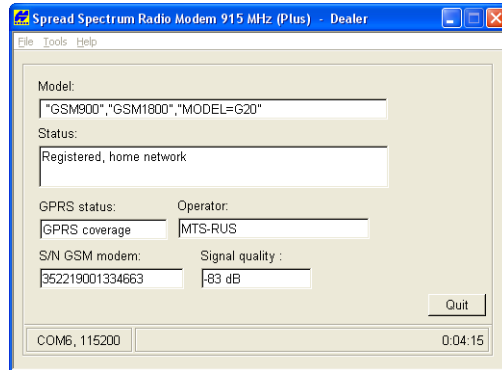

Figure 3-5. View GSM Information
4. To view GSM modem information, click **GSM info** (Figure 3-5). Click **Quit** to return to the *GSM* tab.